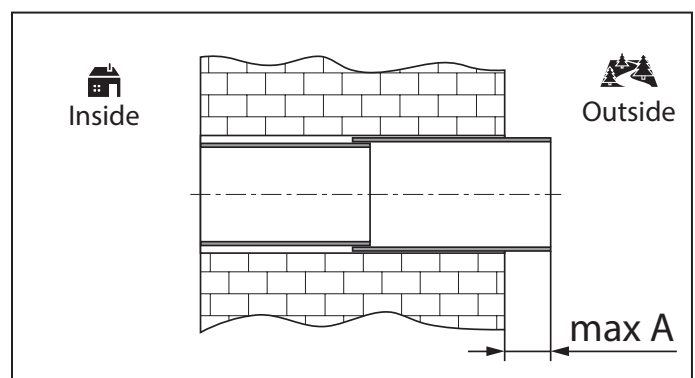

Fig. 10. Size of the core hole
2. Install the telescopic air duct in the wall. The protruding telescopic air duct segment on outer wall side must be equal to the distance A, Fig. 10: